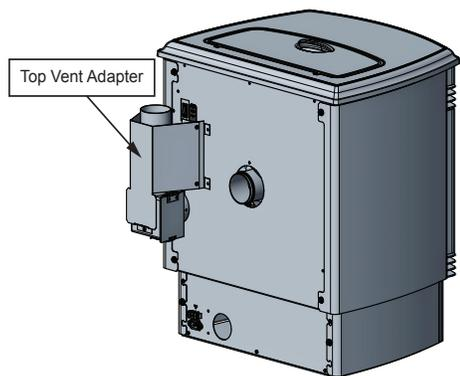

Figure 2
- Slide the Top Vent Adapter (C1) onto the exhaust outlet over bead of silicone making sure the adapter is in the vertical position (Figure 2).